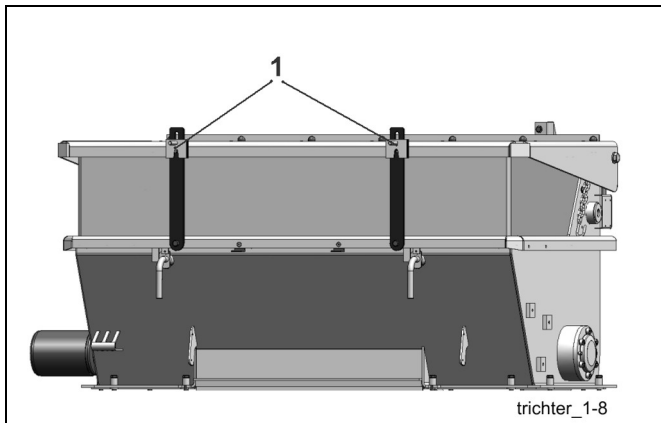
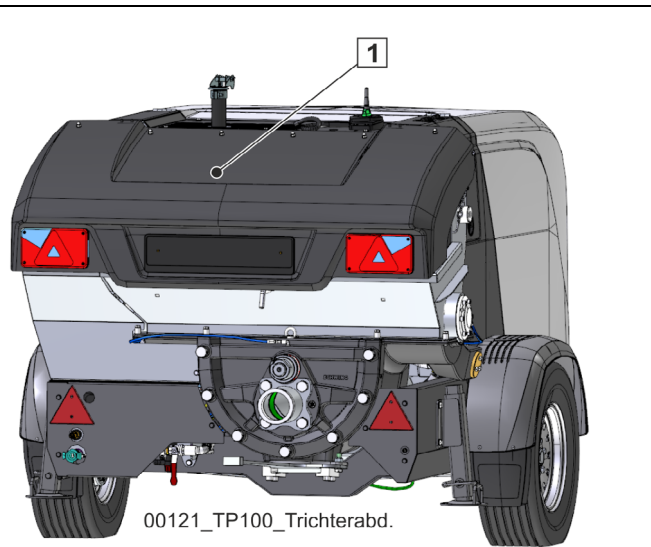

Fig. 240 Example: Cover for PLC feeding hopper
Fig. 241 Cover for TP100 feeding hopper
2. Close the foldable covering for the hopper, e.g. (1) **(Fig. 240)** / **(Fig. 241)**.